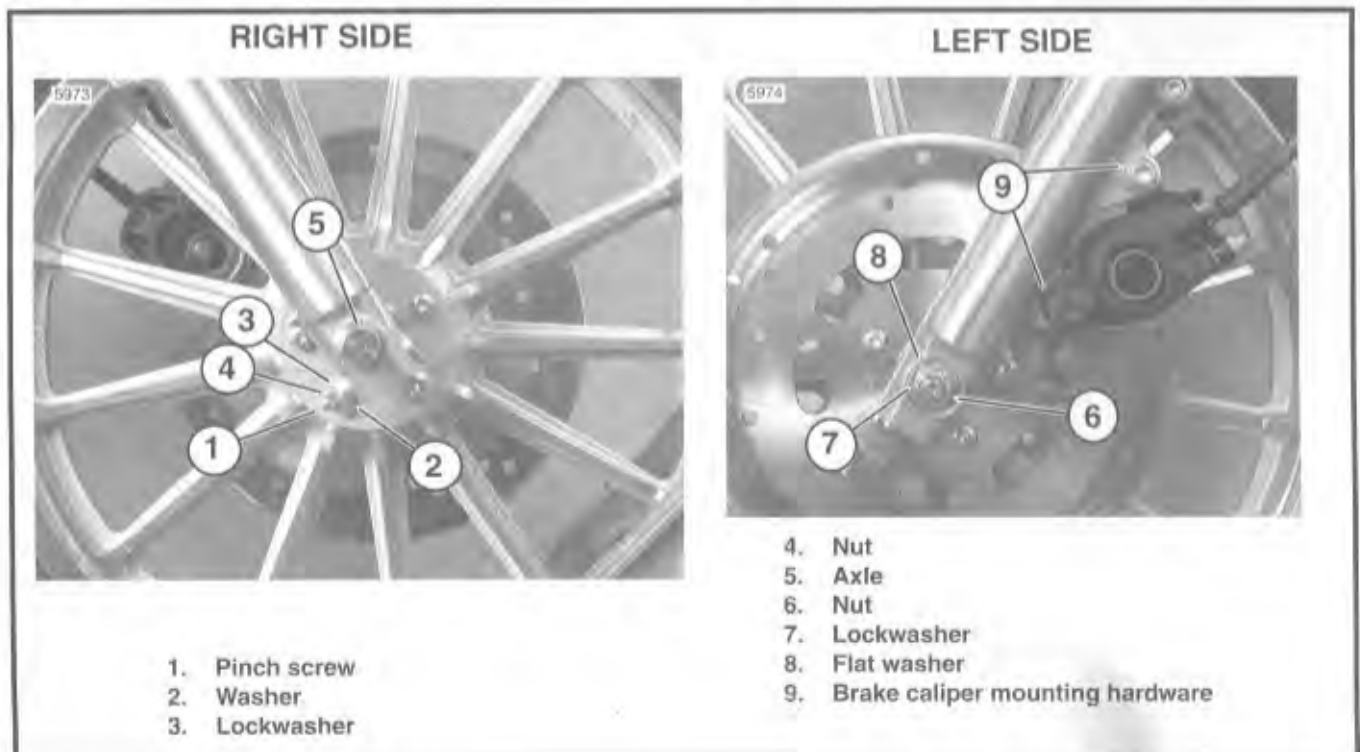

Figure 2-2. Front Wheel Mounting
See Figure 2-2. Check tire inflation pressure at least once each week. At the same time, inspect tire tread for punctures, cuts, breaks and other damage. Repeat the inspection before road trips.
REMOVAL (Figure 2-2)
4. See Figure 2-2. Tighten pinch screw nut (4) to 21-27 ft-lbs (28-37 Nm) torque.
5. Install brake caliper. Tighten brake caliper mounting screws (9) to 25-30 ft-lbs (34-41 Nm) torque. For more detailed information, see FRONT BRAKE CALIPER, INSTALLATION, in this section.